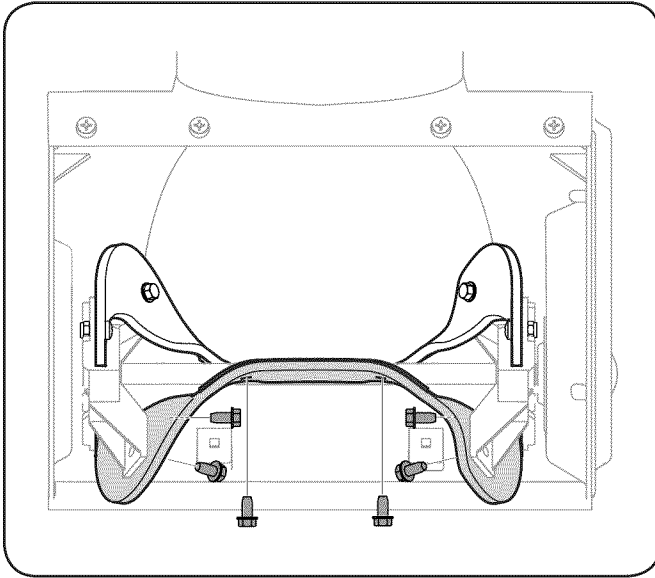

Figure 7-4
1. Remove the existing rubber paddles by unthreading the hex washer screws that secure them to the auger. See Fig. 7-4.